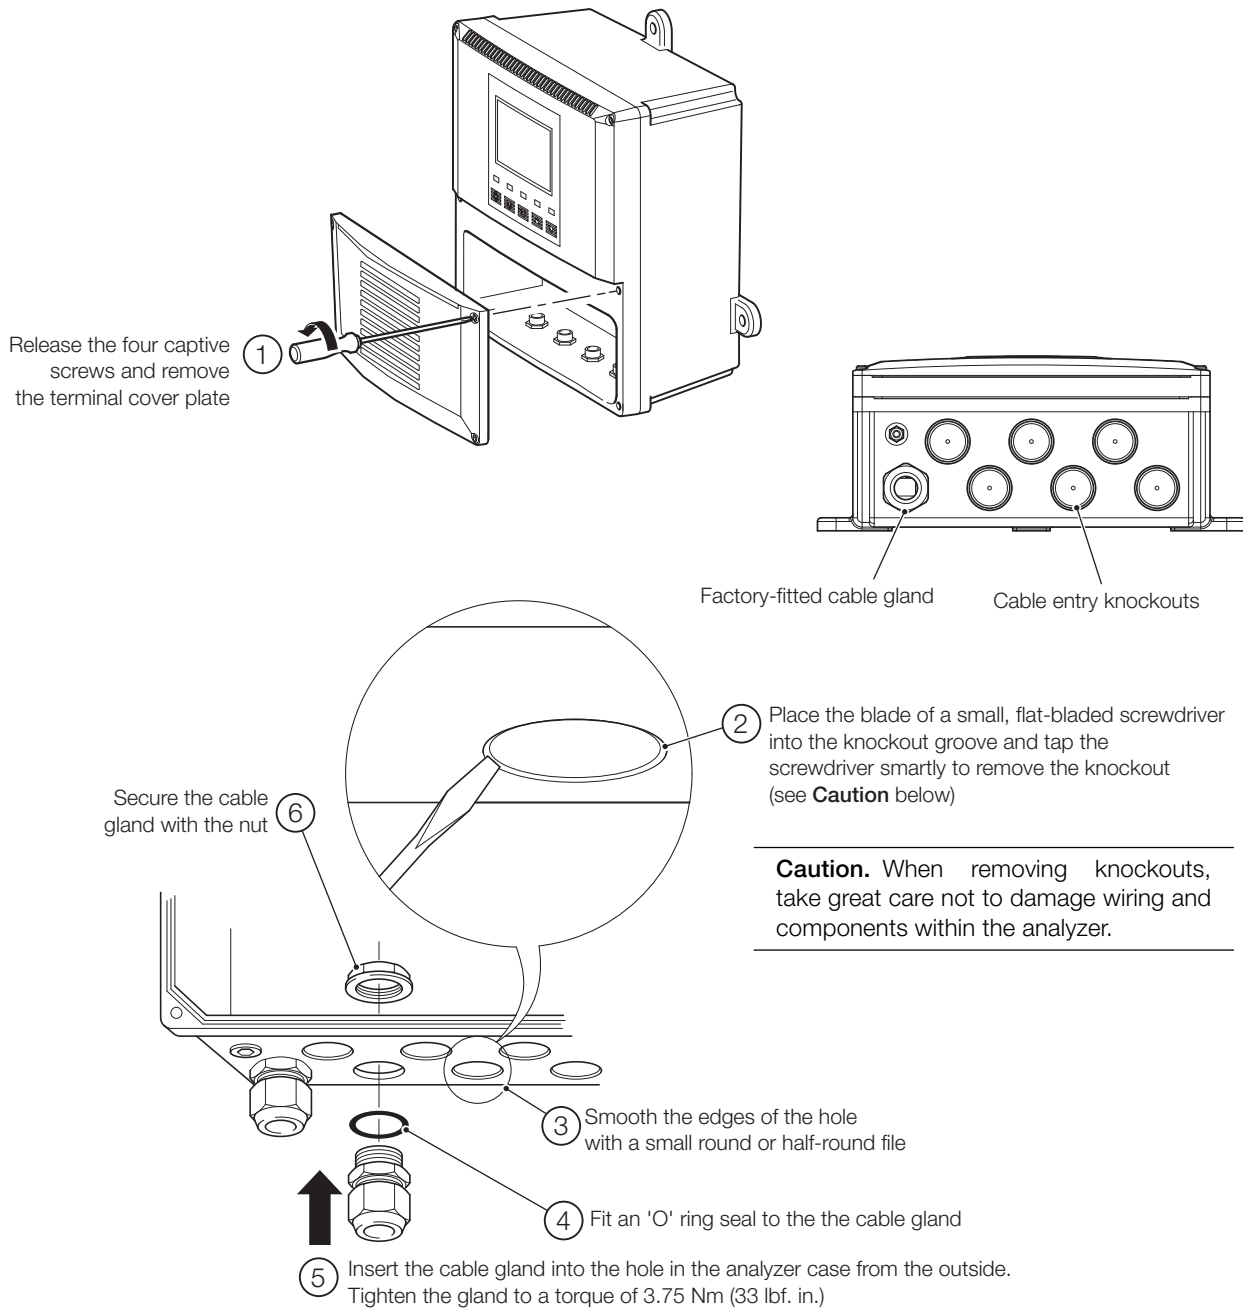

Fig. 6.8 Cable Entry Knockouts
6.5.2 Cable Entry Knockouts – Fig. 6.8
The analyzer is supplied with 7 cable glands, one fitted and six to be fitted, as required, by the user – see Fig. 6.8.